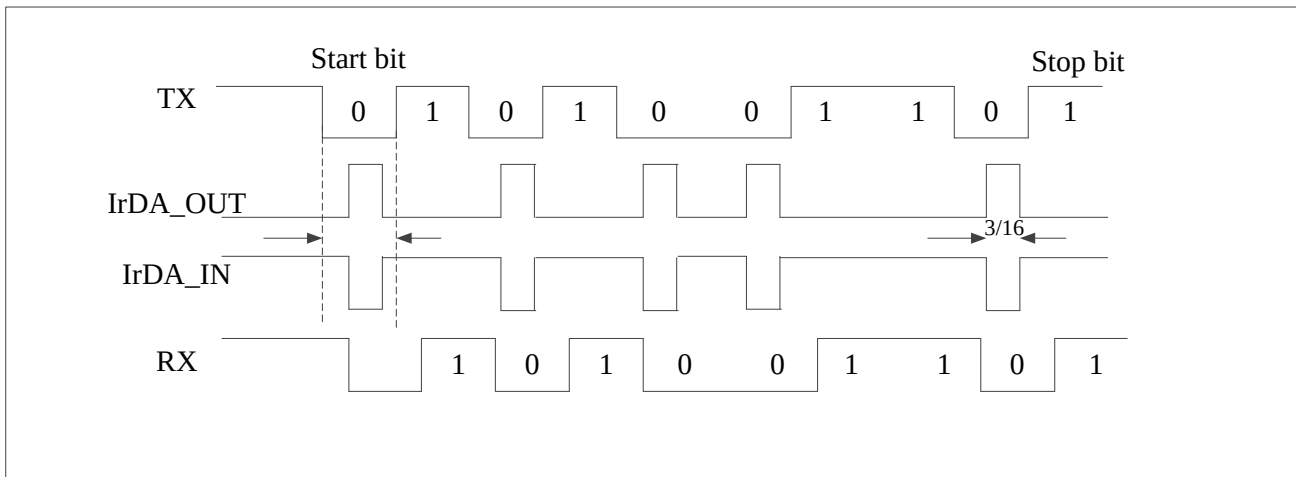

Figure 188 IrDA data modulation (3/16) -normal mode
- A '0' is transmitted as a high pulse and a '1' is transmitted as a '0'. The width of the pulse is specified as 3/16th of the selected bit period in normal mode (see Figure 188).